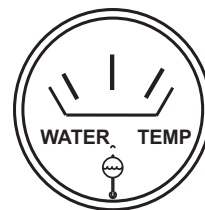

Figure 48. Coolant Temperature Gauge
15. The coolant temperature gauge (Figure 48) will indicate the coolant temperature. Under normal operating conditions the coolant temperature should be between 105 and 215 degrees Fahrenheit (Green Zone).